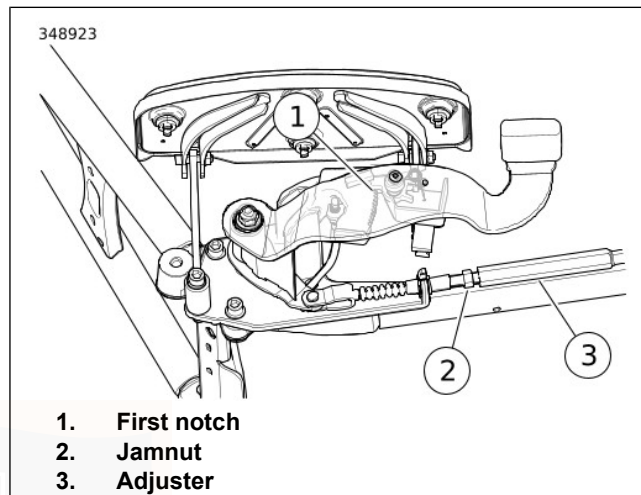

Figure 56. Parking Brake Adjustment
3. See Figure 56. Pull the boot back. Loosen jamnut.